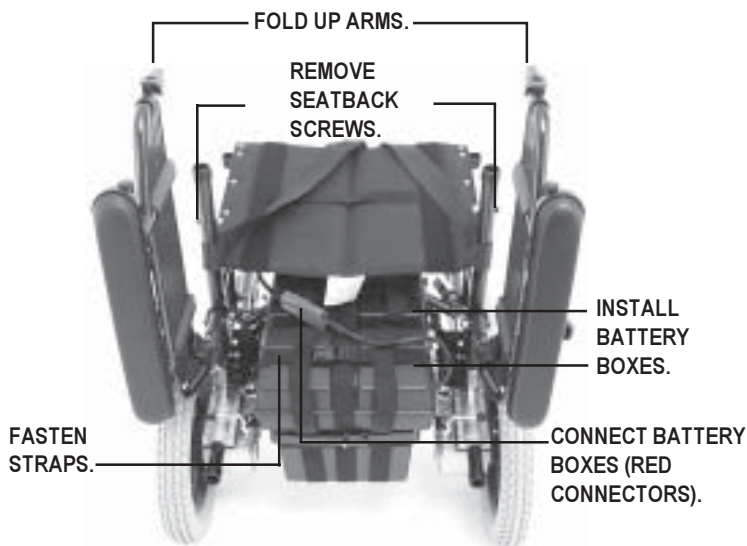

Figure 6. Pride LX Back View
4. Install the battery boxes into the battery frame. Make sure that both main circuit breakers are on the right side of the base assembly. Connect the two red connectors. Connect the straps to secure the battery boxes. Adjust for tightness as necessary. See figure 6.
5. Remove the plastic wrap from the seat posts and remove the seatback screws. See figure 6.